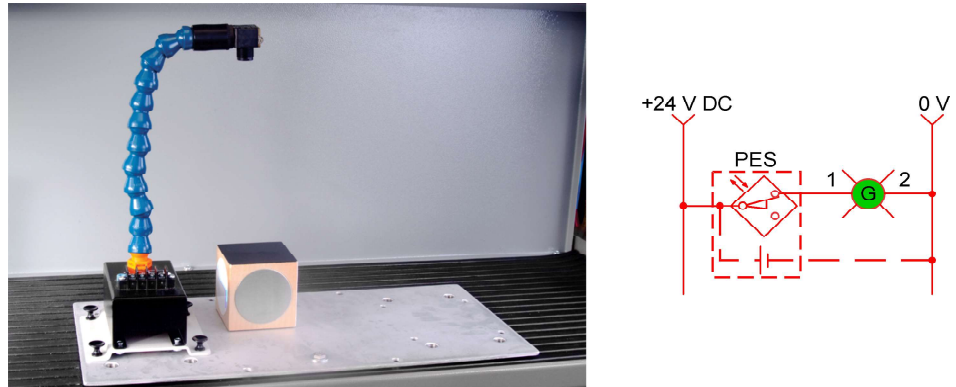

Figure 16. Circuit using the Polarized Retroreflective Photoelectric Switch.
1. Set up the circuit shown in Figure 16.
3. Position the Reflective Block so the black plastic surface is parallel to the sensor sensing face at a distance of 200 mm (8 in), as shown in Figure 16.